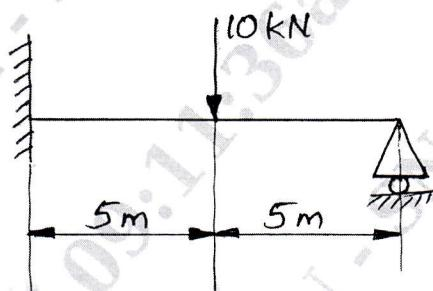

Fig.Q.5(b)
b. For the beam element shown in Fig.Q.5(b) determine deflection under the given load. Take  $E = 2 \times 10^5 \text{ N/mm}^2$  and  $I = 4 \times 10^{-6} \text{ m}^4$ . (10 Marks)